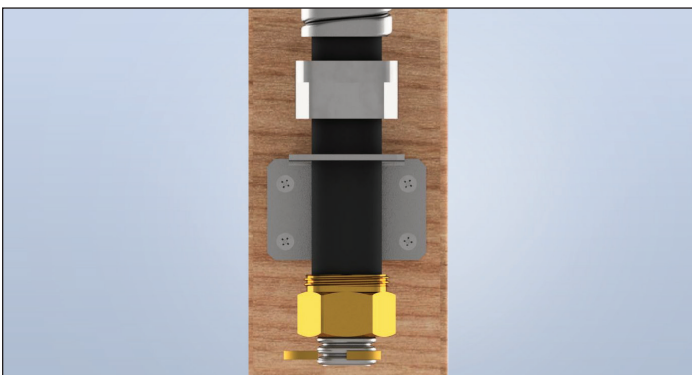

Figure: 1-6
6. Separate the fitting Body from the Nut and remove the two Split Rings. Slide the Nut over the cut end until the Nut bottoms out against the jacket. Place two Split Rings into the first corrugation next to the tube cut then slide the Nut forward to trap the Split Rings (Figure 1-6).